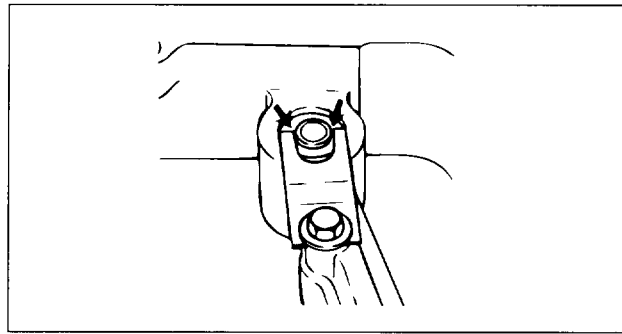

FIG. 22
4. Reassemble in reverse order. When tightening the capscrew, make certain the two spring tabs do not interfere with the sides of the master piston center raised portion (see Fig. 22). Torque the capscrew to 8 lb.-ft. (11N•m).